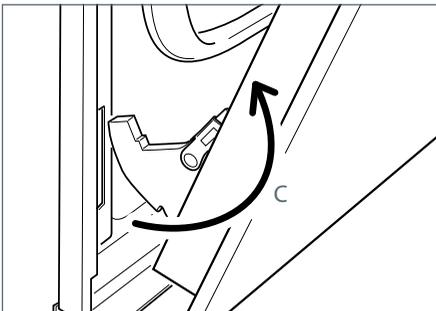

Fig.63e
- 5 Withdraw the hinge hooks from their location following arrow "C" (Fig. 63e).